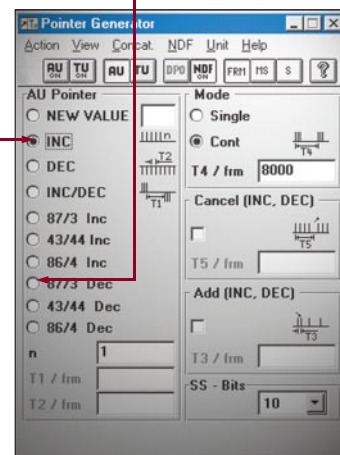

figure 2 Pointer actions
**Generation of pointer actions (figure 2)**